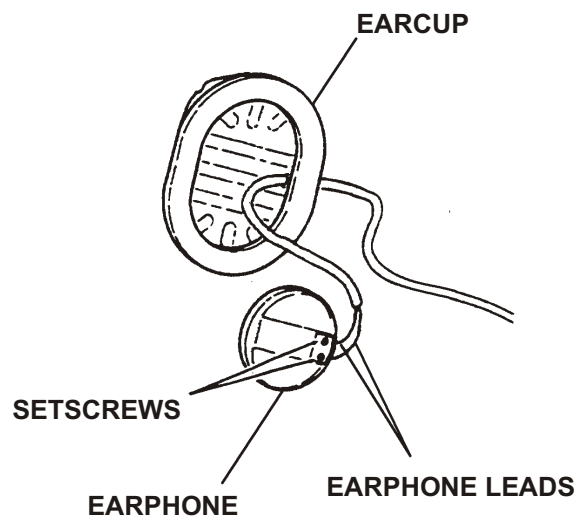

Figure 3-3. Earphone Removed from Earcup
4. Referring to Figure 3-3, loosen the two setscrews attaching the earphone leads to the earphone; remove the cable from the earphone.